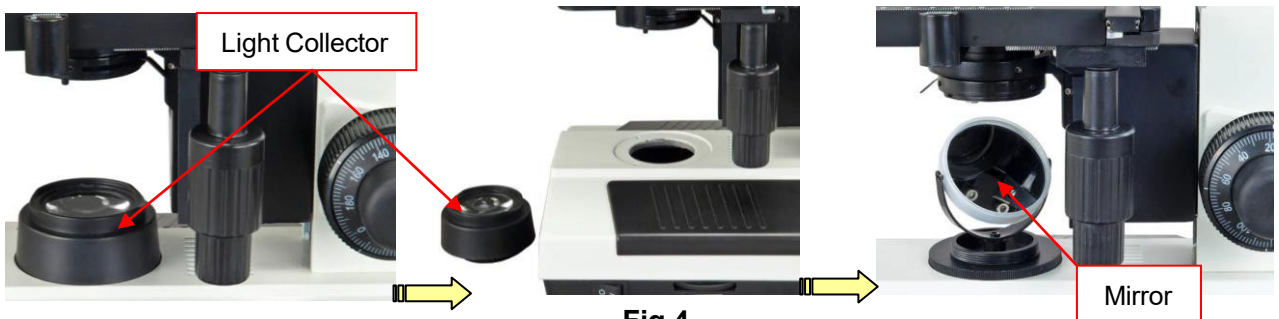

Fig.4
- 3) Screw the black disc onto the base and then insert the mirror into the hole at the center of the black disc. (See **Fig. 4**.) You may try to get reflected ambient light on either side of the mirror with different angles for best result.